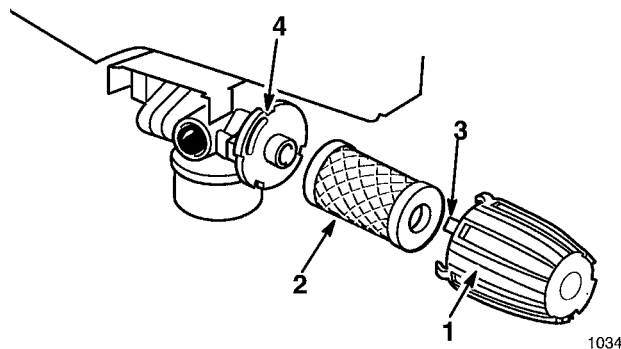

Figure 17
1. To replace air filter, turn cover left (counterclockwise); remove cover and air filter (Fig. 17).
3. Position filter and cover against flange with tab of cover into slot in flange (Fig. 17).